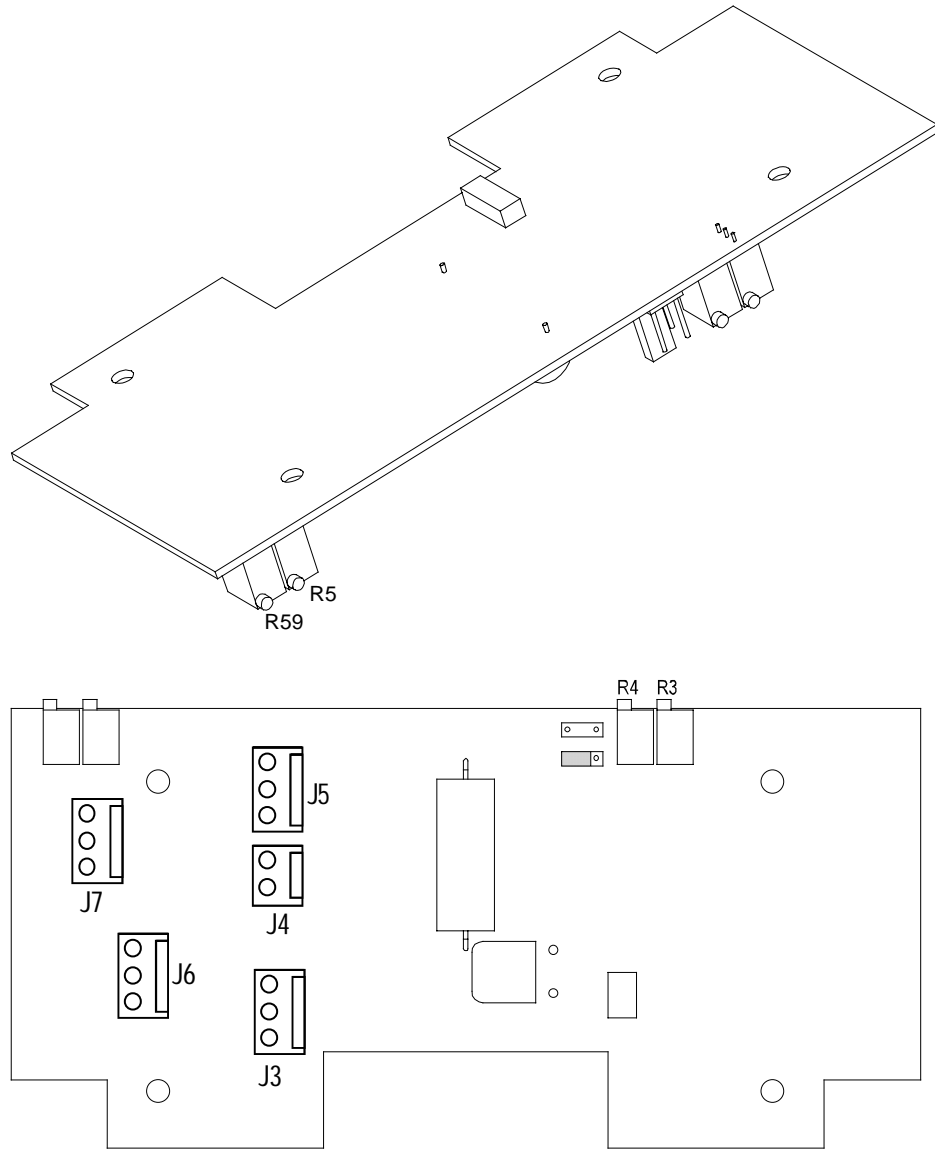

Figure 4-8 Slidewire Emulation Board
7. If the reading is incorrect, adjust R5 (see Figure 4-8) until the reading is within tolerance.
10. If the reading is incorrect adjust R59 (see Figure 4-8) until the reading comes into line.